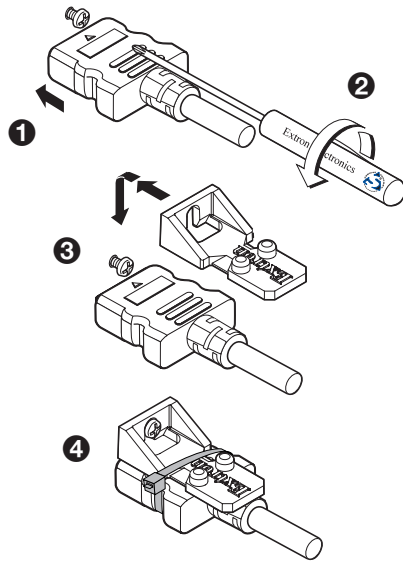

Figure 12. Top Mounting a LockIt Cable Lacing Bracket
- **HDMI Output 1A** — Top mounting (shown in figure 12)
1. Plug the HDMI cable into the panel connection (see figure 12, ①).
2. Loosen the HDMI connection mounting screw from the panel enough to allow the LockIt lacing bracket to be placed over it (②). The screw does not have to be removed.
3. Place the LockIt lacing bracket on the screw and against the HDMI connector, then tighten the screw to secure the bracket (③).